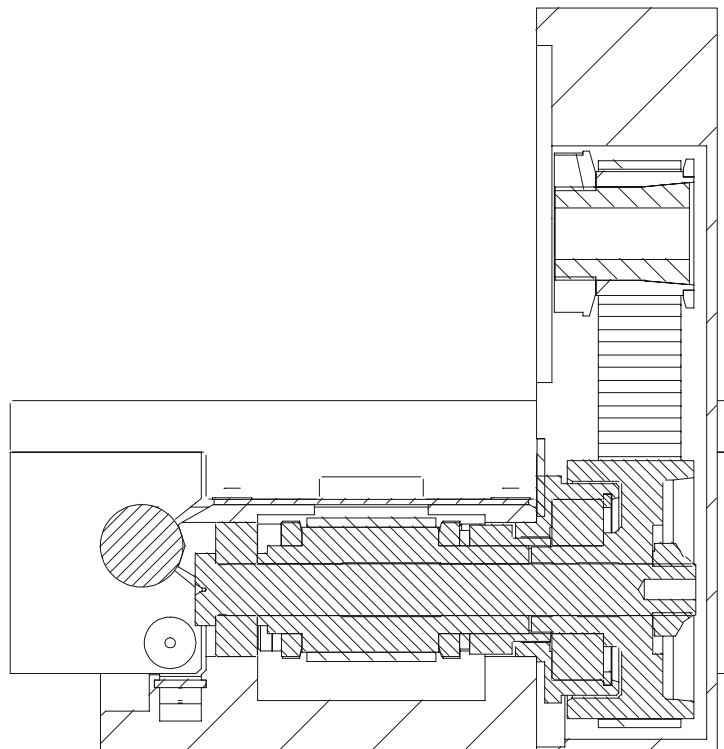

Figure 25: Cutaway View Drive Assembly, Module 105
- Press out the drive assembly by undoing the four fastening screws gradually (see *Figure 25*).